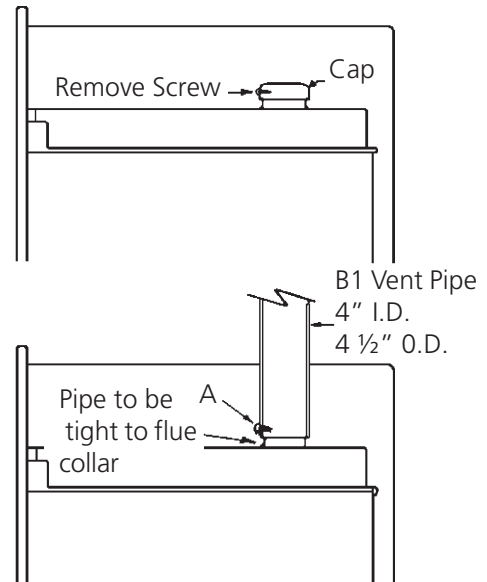

Figure 8
- A. Place the pipe on the vent outlet and drill a 3/32" diameter hole at point "A" (see figure 8). Hole must be drilled so that holes in pipe and flue collar line up.
- B. Fasten the pipe to flue collar with one screw. (see figure 8).